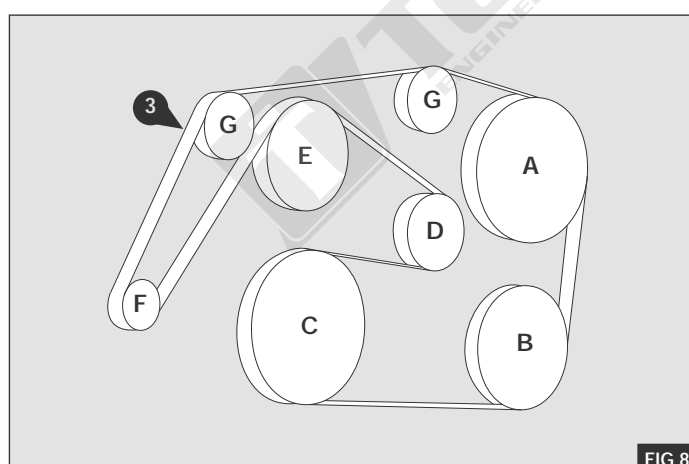

FIG 8
1. Fit the supplied drive belt **3** to the vehicle - Fig.8